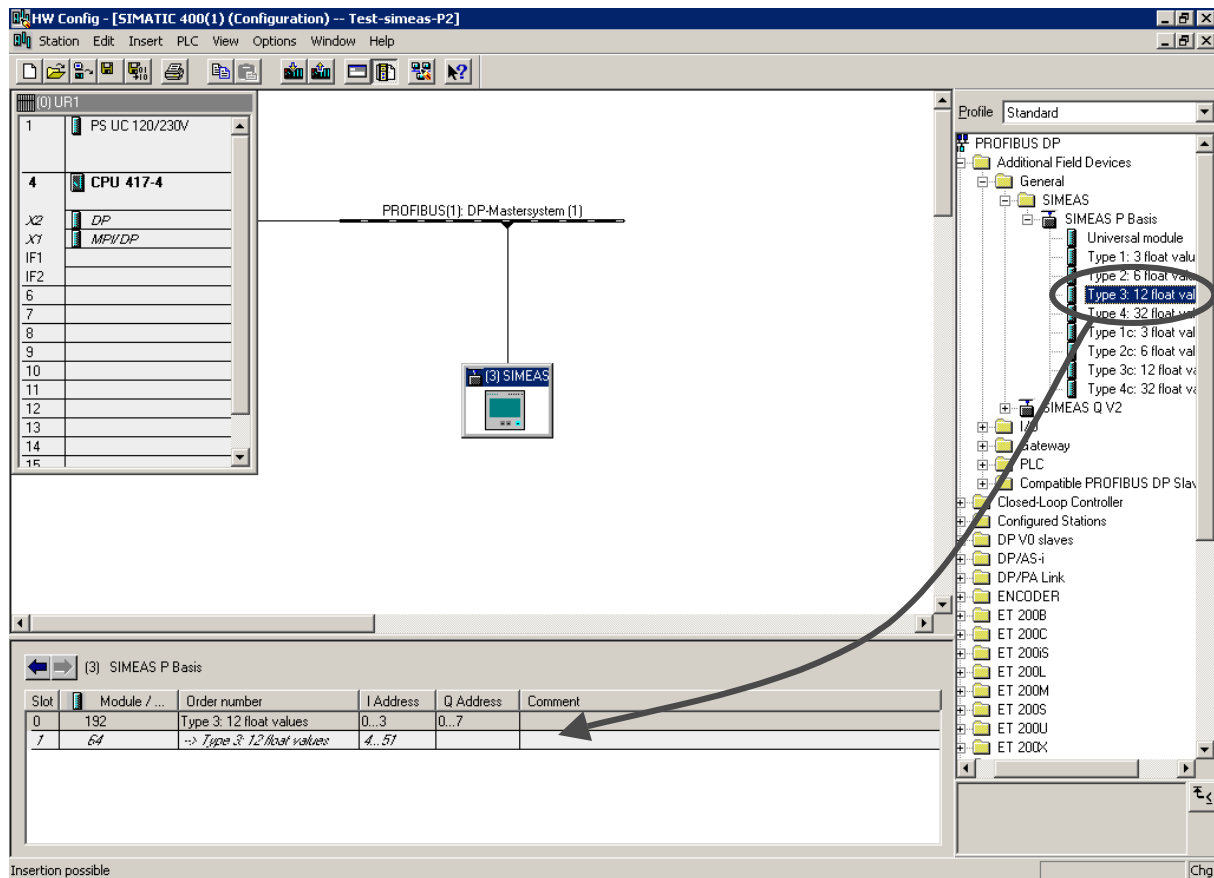

figure 3: Definition of the data transmission type
- Define the type of data transmission for the number of measured values you would like to transmit to the master station. Select the desired data transmission type in the hardware catalog and drag it into the station window below. (see figure 3: Definition of the data transmission type).